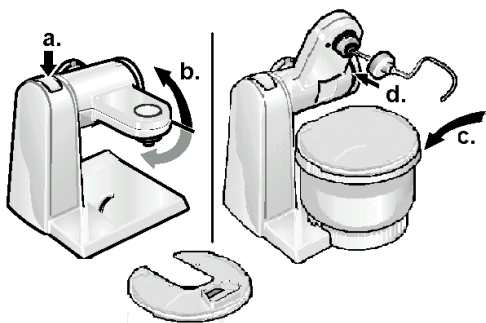

Figure 4.
2. The dough hook is used in mode 1, see table 1. To place the mixing bowl and insert the dough hook the arm must be moved as shown in figure 4:
2. Both the stirring whisk, or beating whisk is used in mode 1, see table 1 and figure 4. Follow the same step as shown in figure 4, but for 4d insert the whisk you wish to use rather than the dough hook and its deflector.